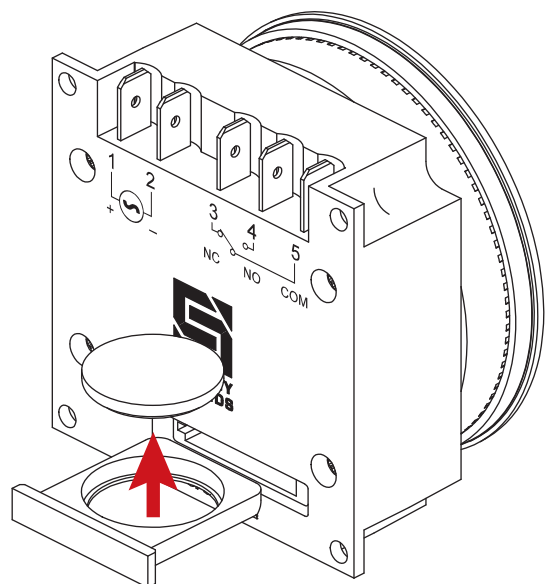

Figure 4: Battery Removal
1. Flip unit over to back side and find battery tray (See **Figure 4**).